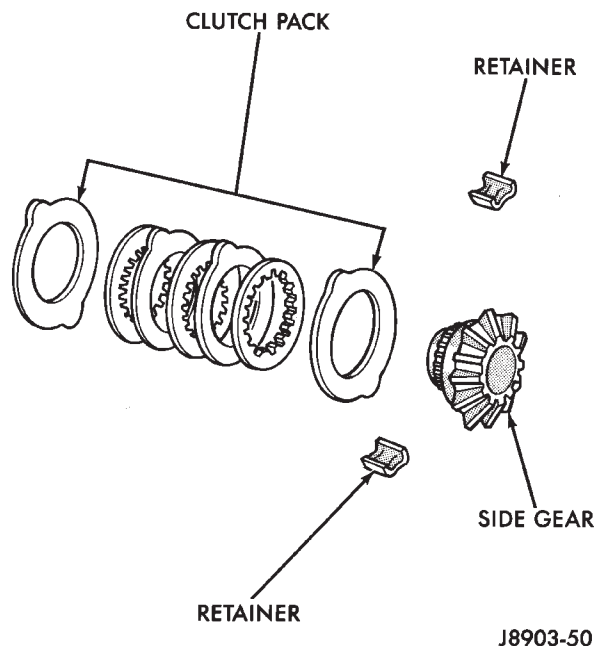

Fig. 51 Clutch Disc Pack
(1) Assemble the clutch discs into packs secure disc packs with retaining clips (Fig. 51).